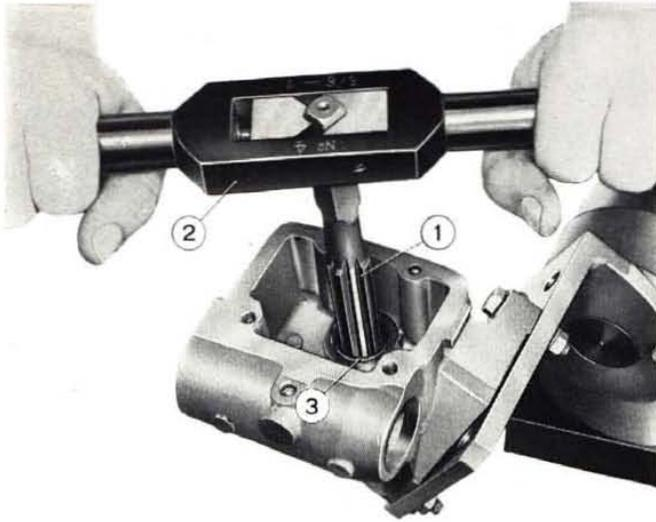

Fig. 281 - Reaming eccentric bushing.
- after installation, reface the bushing with reamer **A. 90360/20** (fig. 281) to obtain specified clearance between bushing and sector shaft;